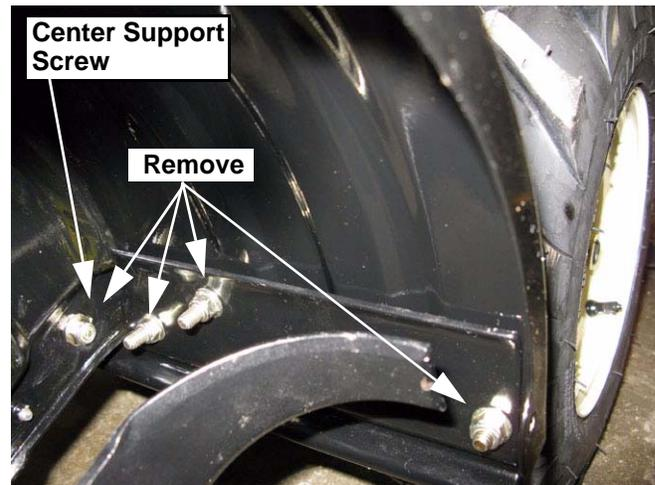

Figure 4.10
19. Remove the three hex cap screws and nuts that hold the tine shield spacer bracket to the tine shield from each side of the tine shield. See Figure 4.10.